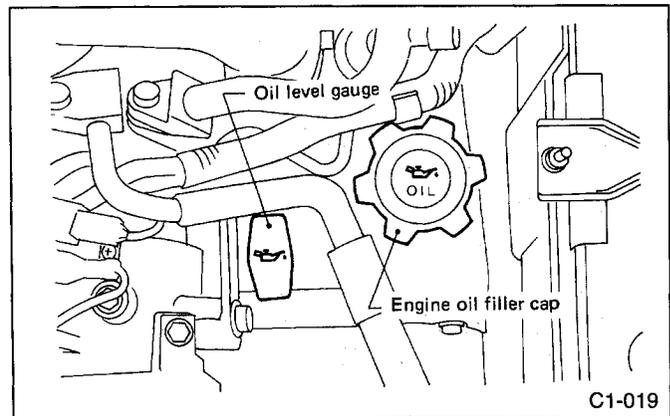

Fig. 1
- 3) Reinsert the level gauge all the way. Be sure that the level gauge is correctly inserted with the symbol on the top appearing as shown in the figure1.